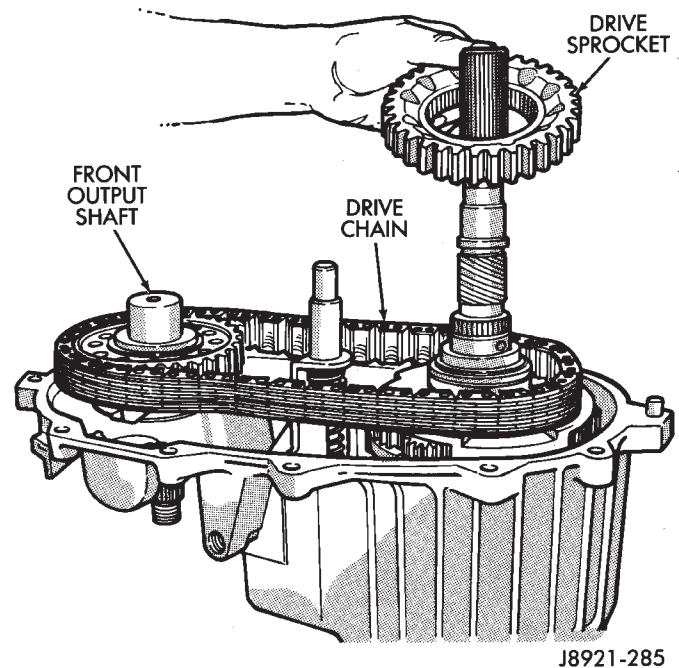

Fig. 82 Drive Chain And Sprocket Installation
- (1) Install front output shaft (Fig. 82).
- (2) Install drive chain (Fig. 82). Engage chain with front output shaft sprocket teeth.
- (3) Install drive sprocket (Fig. 82). Engage drive sprocket teeth with chain. Then engage sprocket splines with mainshaft splines.